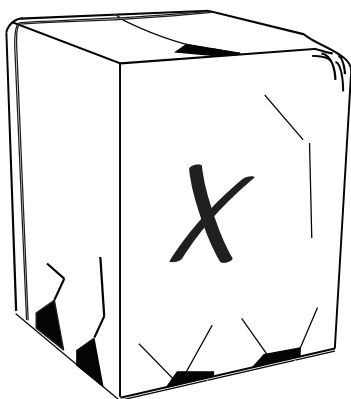

Figure 3-1
STEP 1 - Check for damage and report promptly to the carrier any damage found to the unit (Fig.3-1).